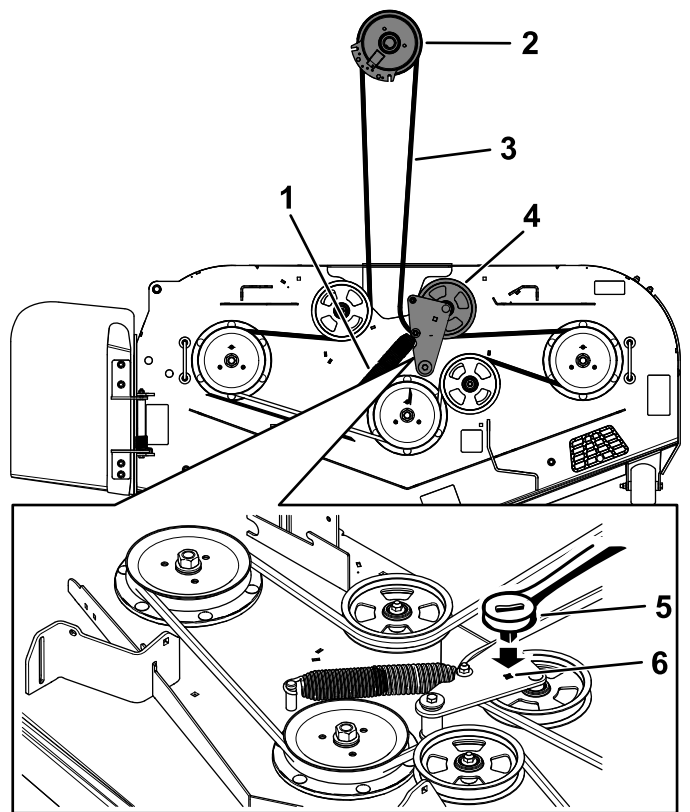

Figure 78
10. Install the belt guide on the idler arm (Figure 78).
11. Using the 3/8-inch ratchet in the square hole, install the idler spring (Figure 78).
5. Use a 3/8-inch ratchet in the square hole in the idler arm to remove tension on the idler spring (Figure 78).
7. Remove the belt guide on the spring-loaded idler arm (Figure 78).
9. Install the new belt around the mower pulleys and the clutch pulley under the engine (Figure 78).